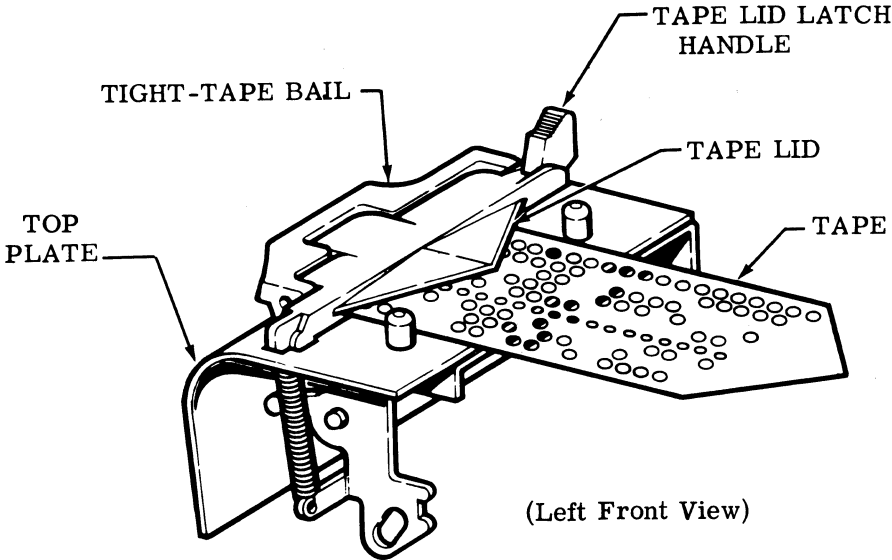

Figure 3 - Tape Lid Mechanism
3.06 When the tape lid latch handle is moved to the right, the spring biased tape lid swings open. Two locating pins guide the tape as it travels above the top of the plate (Figure 3).